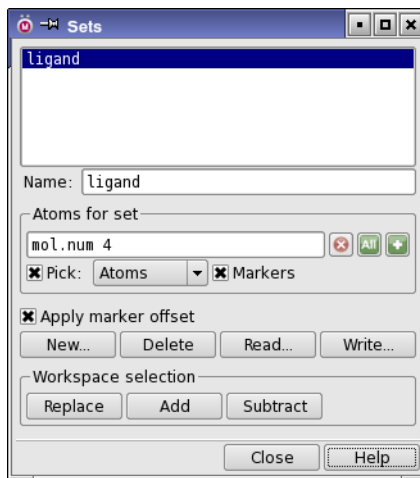

Figure 2.12. The Sets panel.
4. In the Sets panel, under Atoms for set, select Markers (see Figure 2.12).